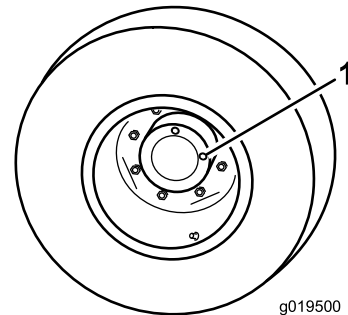

Figure 44
1. Position the machine on a level surface and position the wheel so 1 check plug (Figure 44) is at the 12 o'clock position and the other is at 3 o'clock position.
1. Check/drain plug (2)
2. Remove the plug at the 3 o'clock position (Figure 44).